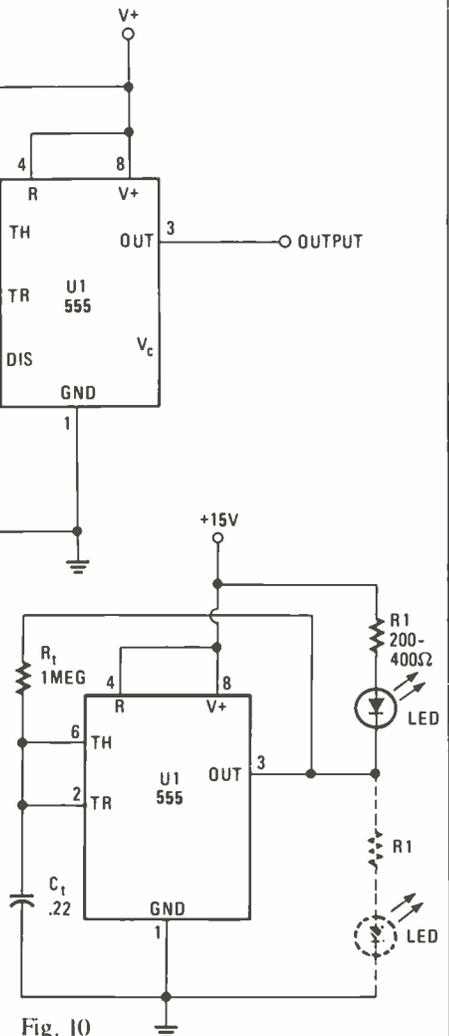

Fig. 10
G.Z., of East Orange, NJ, writes to ask about LED flashing circuits. The circuit shown in Figure 10 is a simple one. You can vary the value of resistor R_1 to set up the desired forward current. The unit will light the LED when the 555 output is high. Use the dotted part of the circuit if you prefer to have the LED come on when the output is low, and if you'd like alternately-flashing LED's, use *both!*